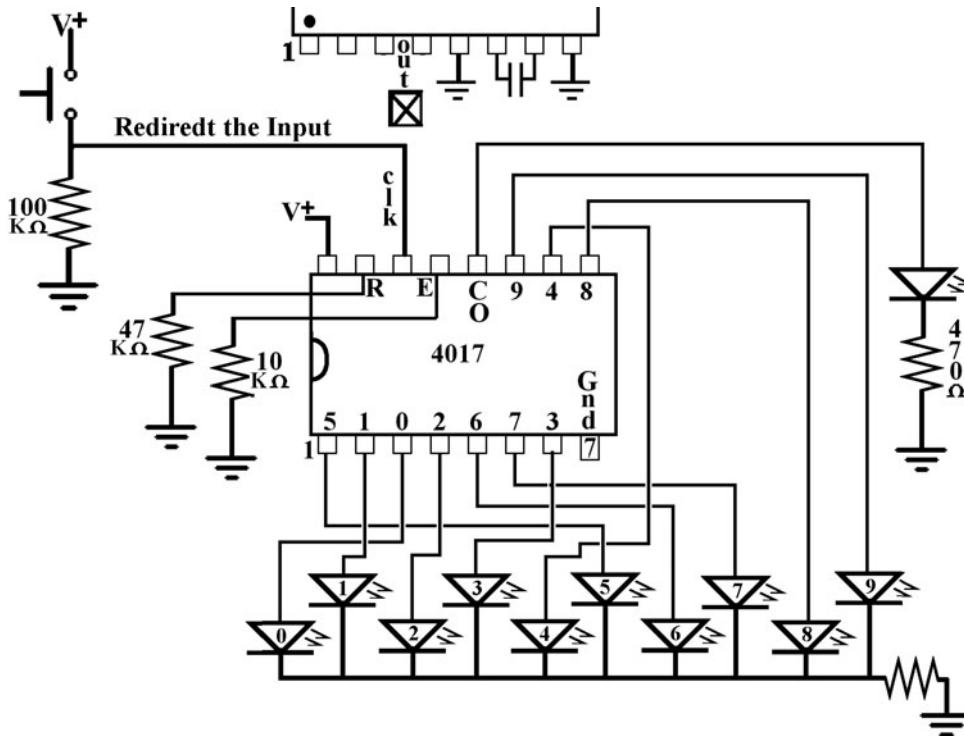

Figure L41-3
1. Attach a 100-kilo-ohm resistor and the PBNO to the clock input of the 4017 as shown in Figure L41-3.